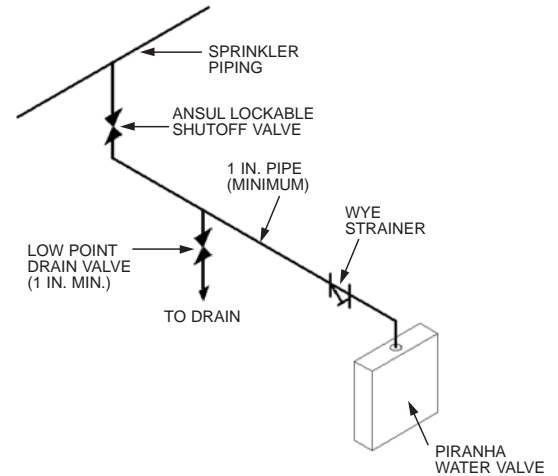

FIGURE 6B
- The PIRANHA ANSUL AUTOMAN Regulated Release Assembly and Regulated Actuator Assembly are listed for use with water pressures up to and including 100 psi (6.9 bar). When the calculated static pressure at the inlet to either the ANSUL AUTOMAN Regulated Release or Regulated Actuator does not exceed 100 psi (6.9 bar), the PIRANHA dedicated waterline must include a lockable water shutoff valve (or listed monitored valve), wye strainer, and low point drain valve (1 in. minimum) (see Figures 6b and 6c).